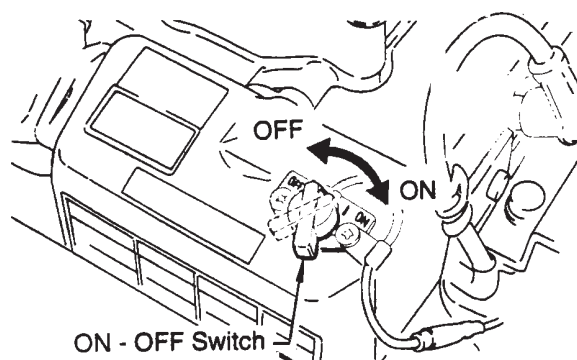

Figure 7. ON/OFF Switch
2. Set the engine **ON/OFF** switch (Figure 7) to the **ON** position (start).